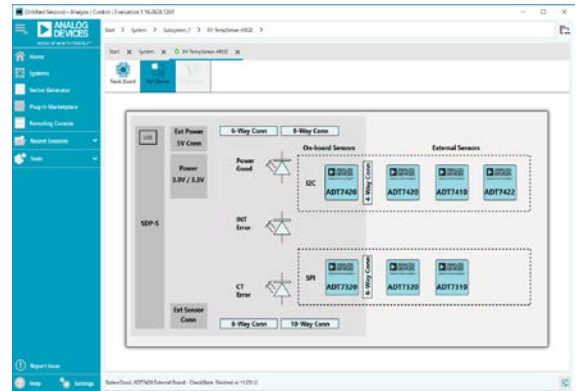

Figure 8. Evaluation Board View of the EV-TEMPSENSE-ARDZ
4. Double click the EV-TEMPSENSE-ARDZ plugin to open the functional block diagram shown in Figure 8.